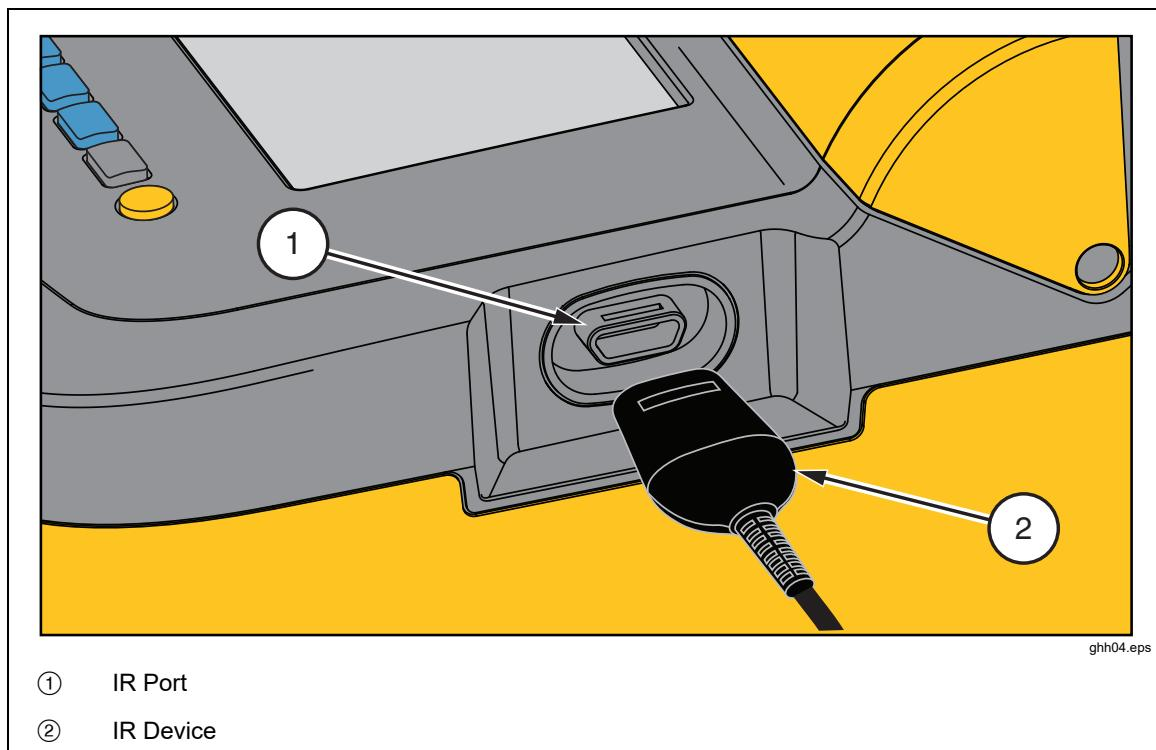

Figure 2. IR Port
Turn the UUT on several times while observing the display during power up. Compare the display with the example in Figure 2. Check all segments for clarity and contrast.
3. Turn the product on and see that all the battery symbol segments display as shown in Figure 2.